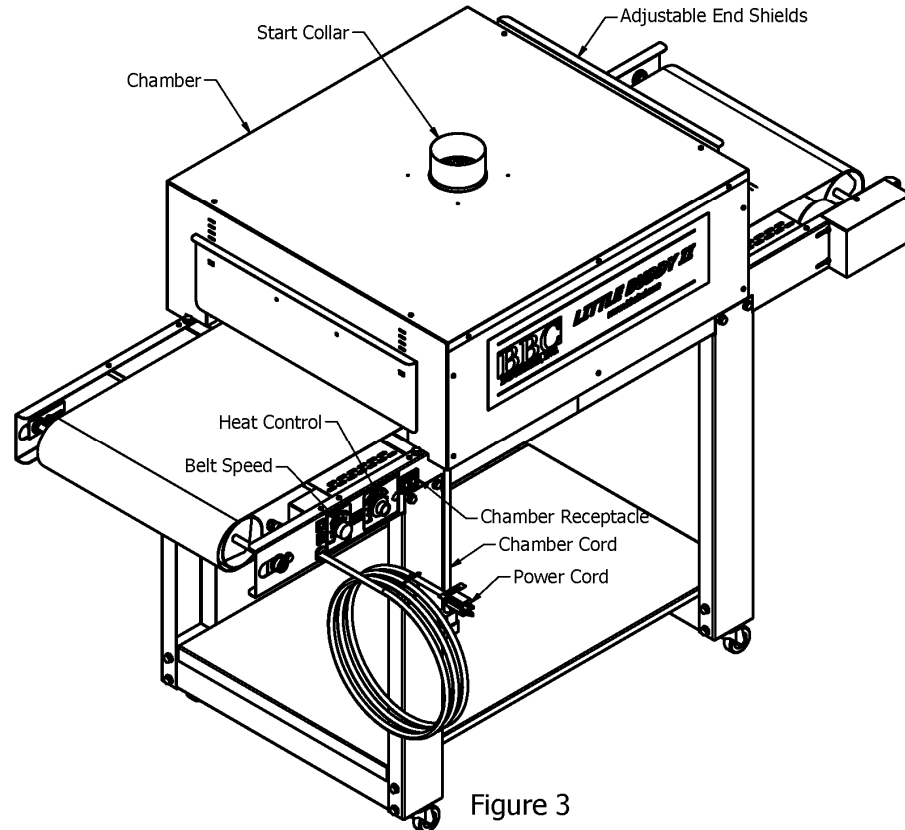

Figure 3
1. **Using two people** set the chamber onto the conveyor bed (see Fig. 3). The Heating Chamber cord must be on the same side of the Conveyor Bed as the Conveyor cord.